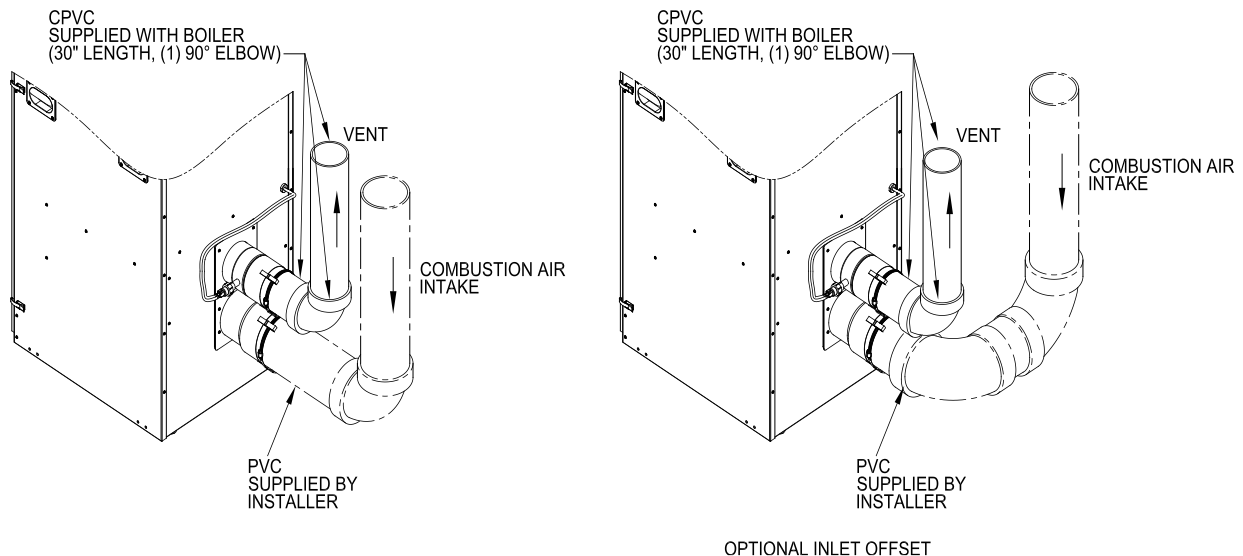

Figure 5: Near-Boiler Vent/Combustion Air Piping
7. Near-Boiler Vent Piping (see Figure 5):